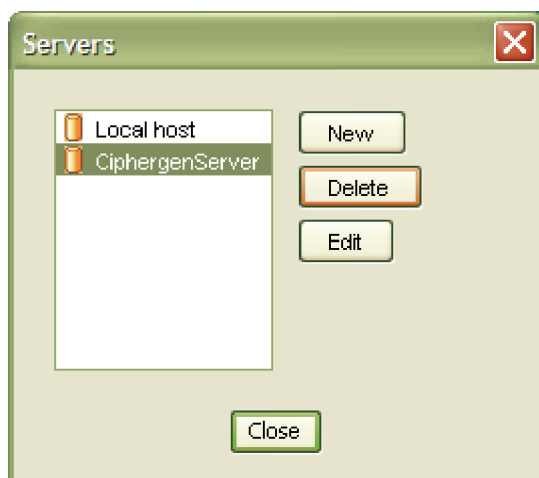

Fig. 39: The **Servers** dialog box.
2. In the **Login** dialog box, click the “...” button. This will open the **Servers** dialog box (Fig. 39).